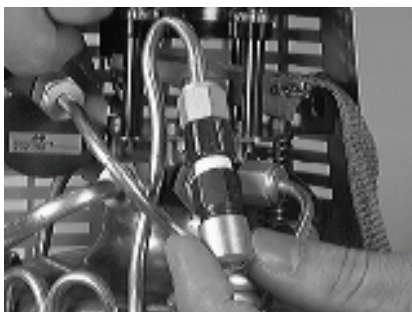

Figure 15: Removing the PRV Silencer
- 2) Loosen and remove the silencer from the end of the primary relief valve (Figure 15).